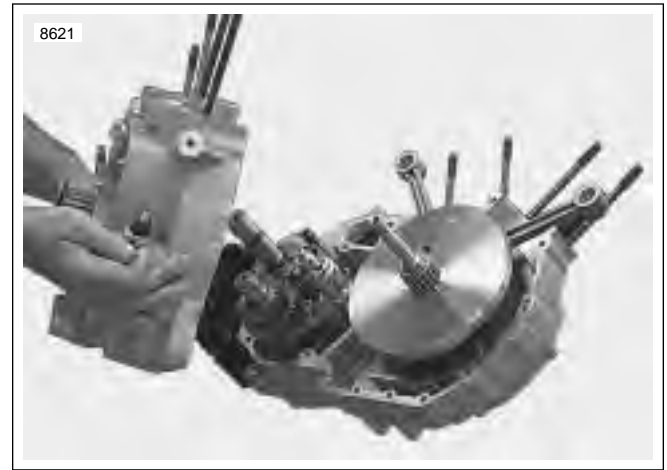

Figure 6-93. Crankcase Halves
5. See Figure 6-93. Assemble crankcase halves together.
- d. Remove GEAR DETENT ASSEMBLY AID and install neutral indicator switch and washer. Tighten to 60-84 **in-lbs** (6.7-9.5 Nm). See Figure 6-93. Assemble crankcase halves together.